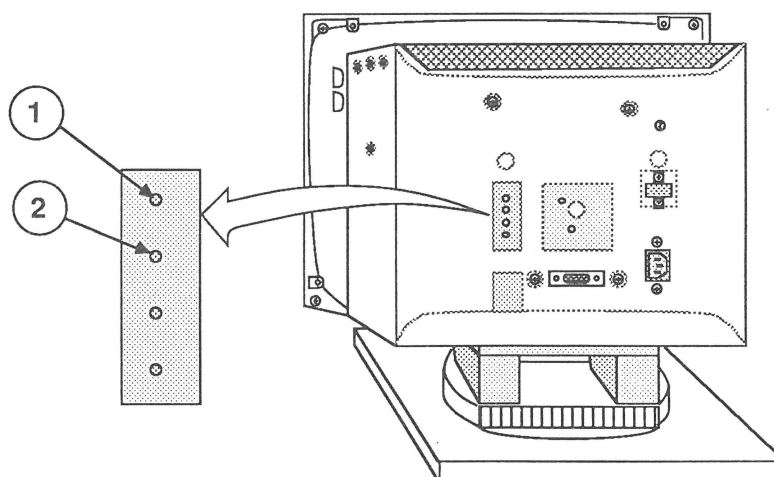

FIGURE 11
7. Check that the total width of the raster is still 15 inches. If it is not, use the plastic alignment tool to adjust the HORIZONTAL SIZE control (Figure 11, #1) until the raster is 15 inches wide.
8. If necessary, use the plastic alignment tool to adjust the HORIZONTAL SHIFT control (Figure 11, #2) until the raster is centered on the screen.